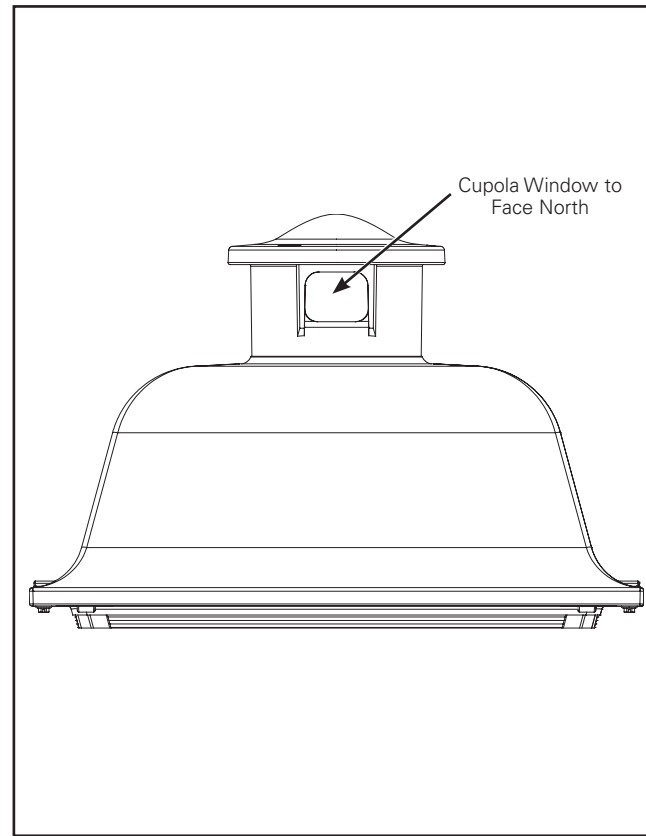

Figure 5.
- Rotate the cupola until the window in the cupola is facing in a northerly direction. Line up the north arrow of the photocontrol receptacle with the window in the cupola. Retighten the screws and install the photocontrol. (Figure 5.)